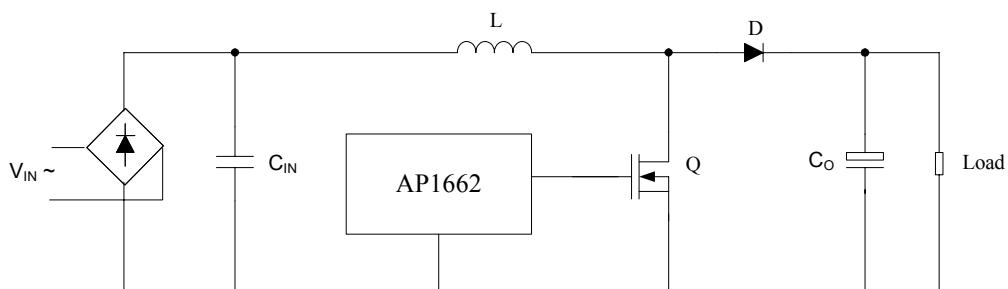

Figure 8. Boost Converter Circuit
The most popular power factor correction topology is the Boost circuit. The boost converter consists of a boost inductor (L), a controlled power switch (Q), a diode (D), an output capacitor ( $C_O$ ) and a control circuit (see Figure 8).